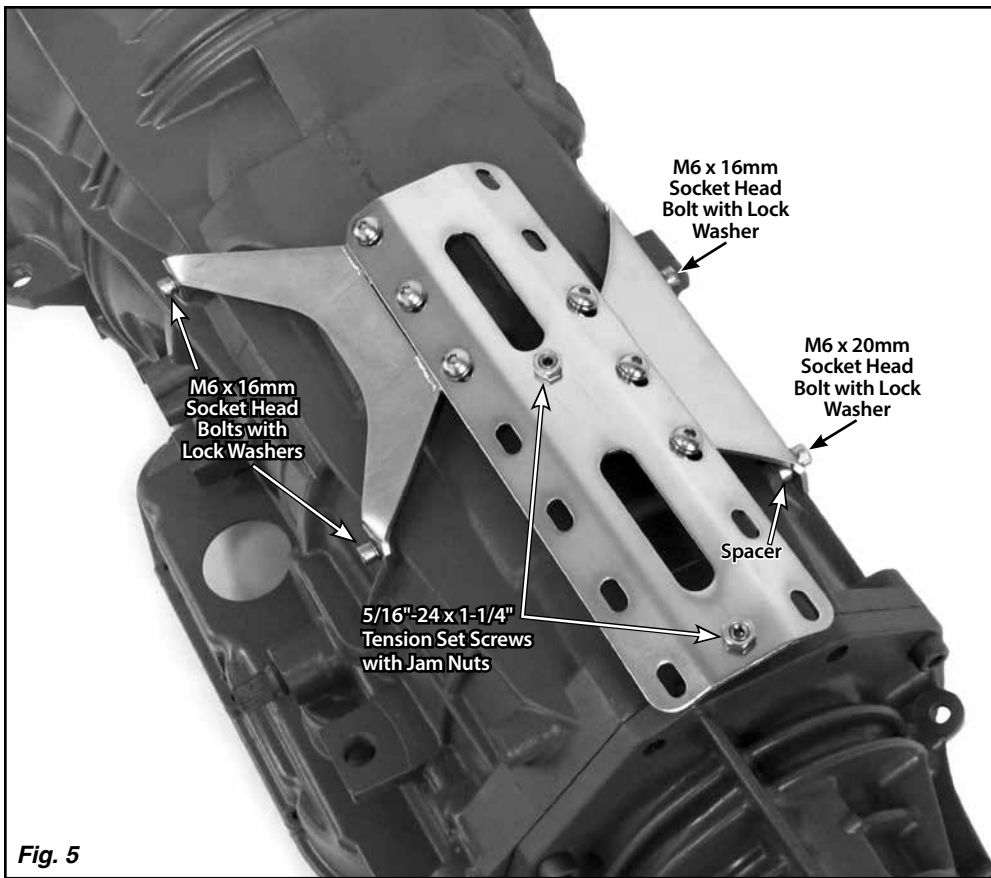

Fig. 5
Step 7: Install the 5/16" x 24 jam nuts onto the set screws, and tighten the jam nut while holding the set screw with a 5/32" Allen wrench. **Fig. 5**